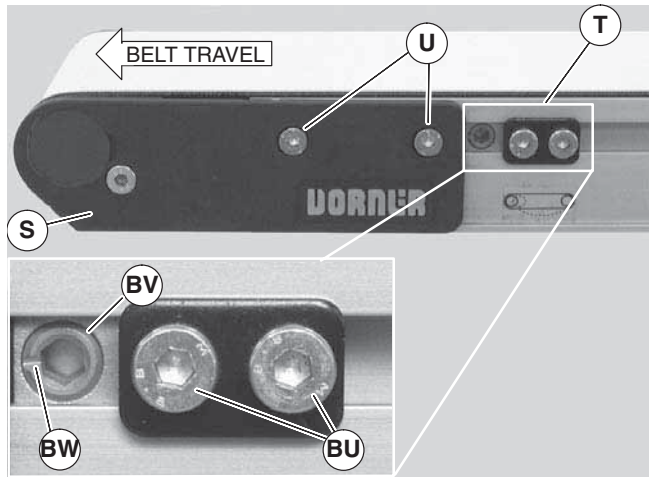

Figure 42
Non V-guided belt conveyors are equipped with belt tracking cam assemblies (Figure 42, item T) for belt tracking adjustment.
1. Ensure head plate fastening screws (Figure 42, item U) on both sides of conveyor are tightened.
2. On both sides of conveyor, loosen two (2) cam fastening screws (BU). Adjust cams (BV) until indicator slots (BW) are horizontal and facing end of conveyor. Then slide cam assemblies against head plates (S) and re-tighten cam fastening screws (BU) to 60 in-lb (7 Nm).
3. On the side toward which the belt is tracking, loosen head plate fastening screws (U).
4. With the conveyor running, use a 5 mm hex-key wrench to rotate the tracking cam (BV) in small increments until the belt tracks in the center of the conveyor. Then while holding the cam in position, re-tighten the head plate fastening screws (U) with a 4 mm hex-key wrench to 60 in-lb (7 Nm).